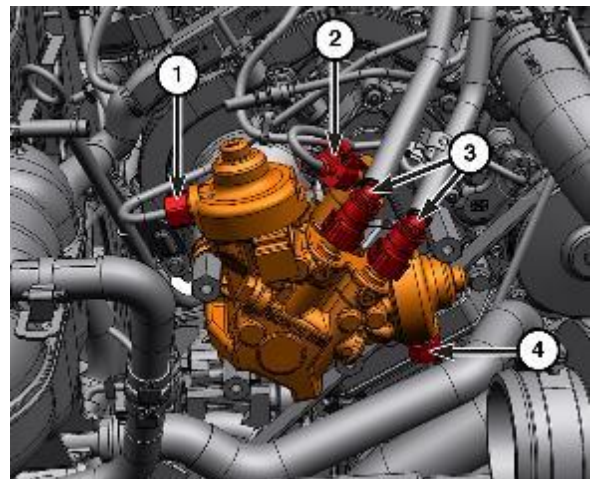

Figure 34 – HPFP Connections
- 25. Disconnect the low-pressure fuel supply lines (3) (Figure 34).
- 26. Disconnect the fuel quantity solenoid wire harness connector (2) (Figure 34).